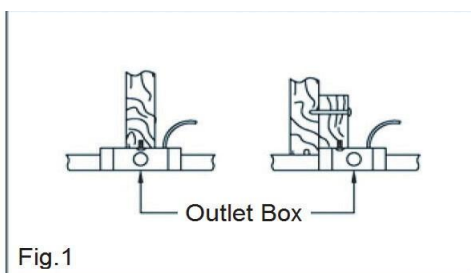

Fig.1
- 3.Figure 1, 2 and 3 are examples of different ways to mount the outlet box in different situations.